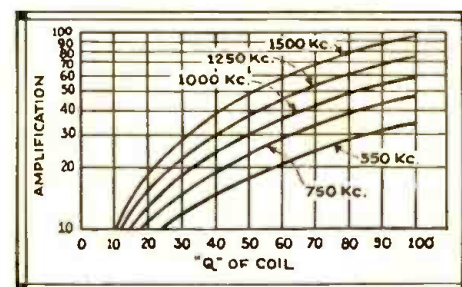

Fig. 3
R.F. resistance of the secondary tuned circuit. As we can readily see from this formula, the lower the resistance of the secondary, the higher will be the efficiency of the tuned circuit. However, this is dependent more on the design of the secondary coil than the primary and, for illustration purposes, we will assume that we have a coil with a "Q" of about 90 to 100. Then from Fig. 3, we can see that if the coupling between the primary and secondary is kept